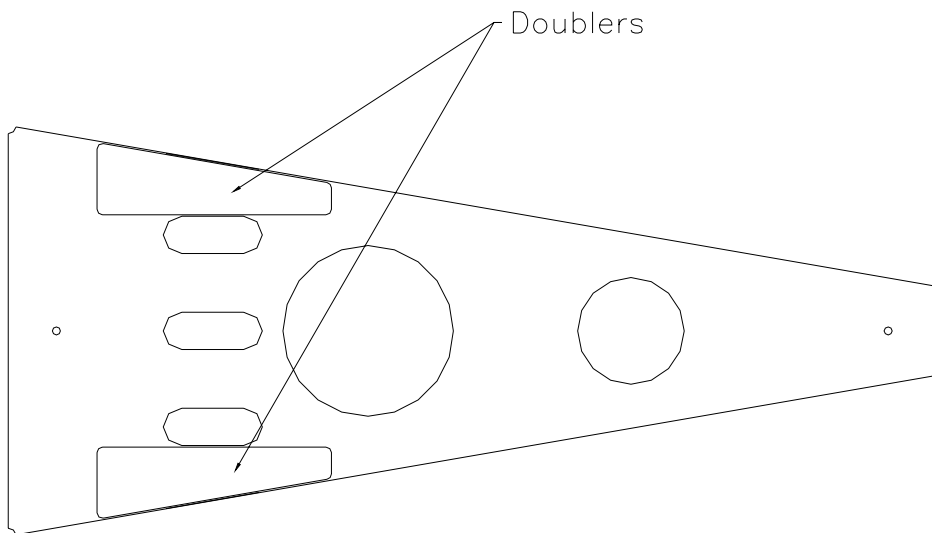

Figure 20.8.3
3) Position the doublers near outer holes on the bottom of FUS-31. Figure 20.8.3.